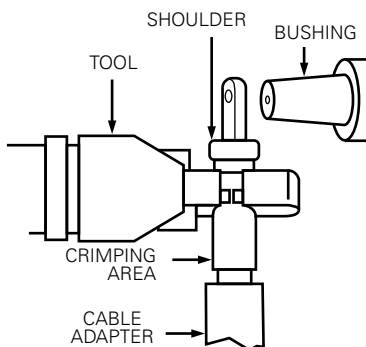

Figure 10. Line illustration of crimping area.
- Make first crimp 1/2" (13 mm) below shoulder of compression connector. (Refer to Figure 10.)